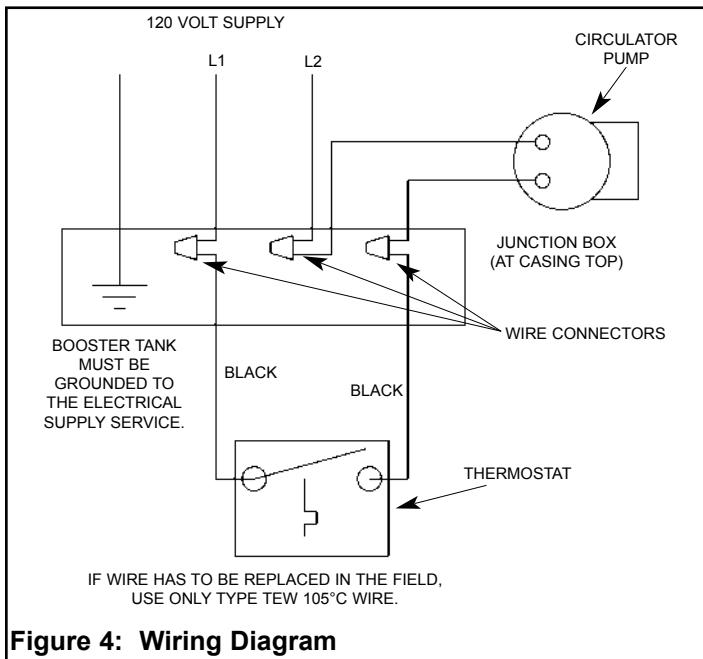

Figure 4: Wiring Diagram
2. Connect the circulator pump in series with the thermostat as shown in Figure 4.